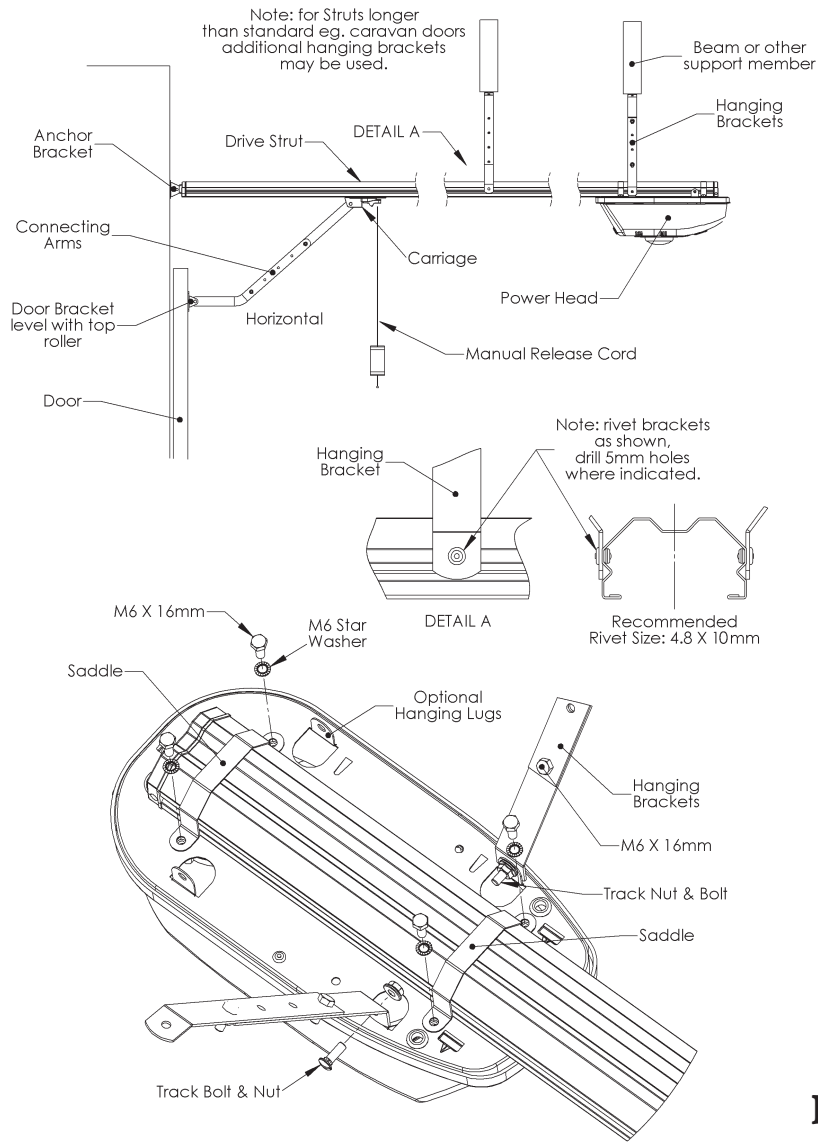

Fig.2
2. While aligning the motor shaft with the sprocket, fit the strut to the power head. Fit the two mounting saddles and secure them with the M6 bolts provided. See Fig. 2 on p8